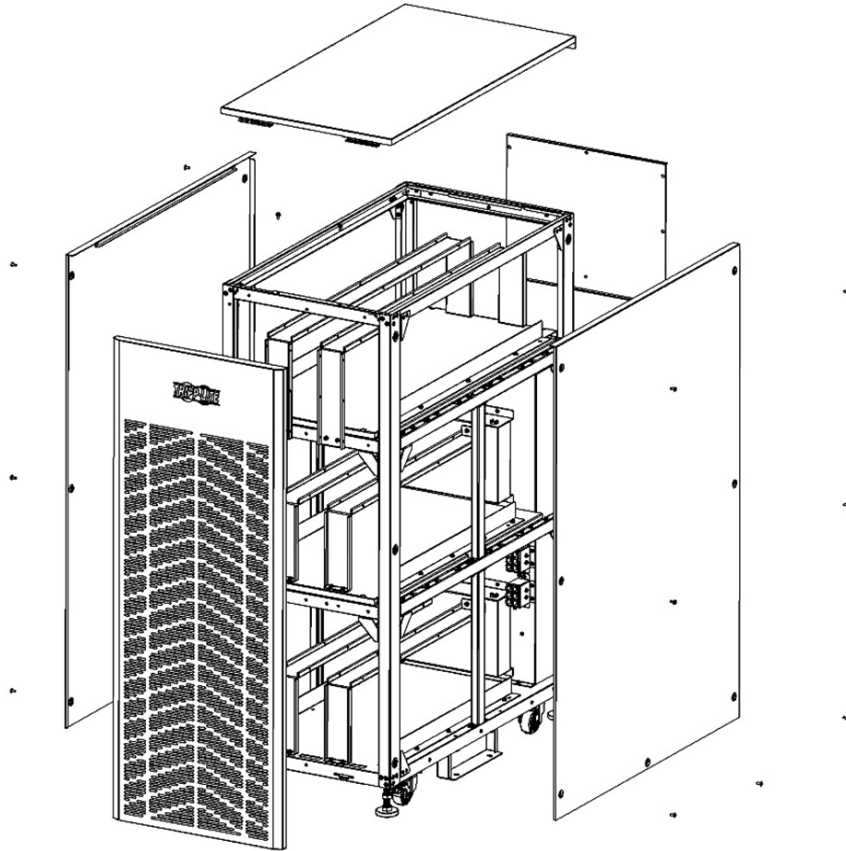

Figure 5-35A
2. Remove the top, front, back, right side and left side plates (Figures 5-35A and 5-35B).